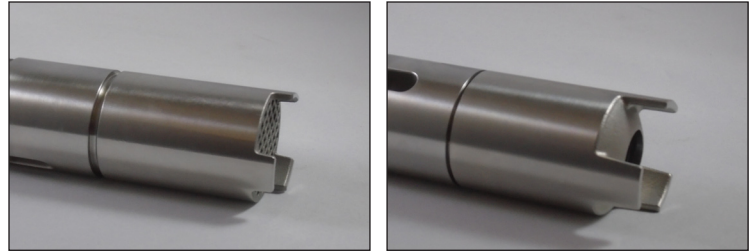
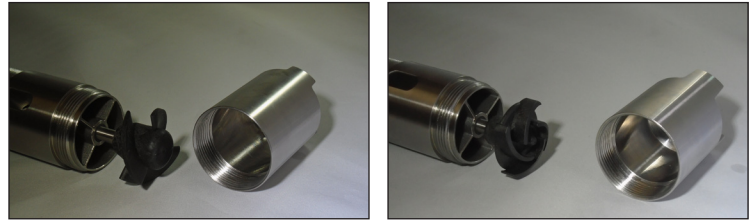
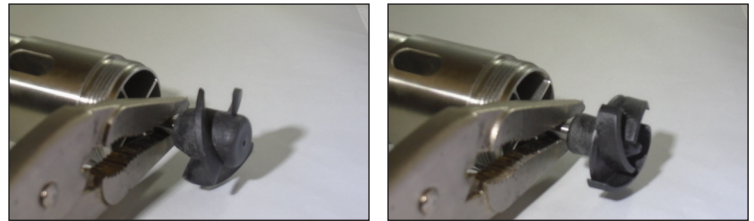

Figure 1 A & B
Figure 2 A & B
Figure 3 A & B
- Cover, Impeller, & Diffuser Removal** - Unthread the diffuser cover (item 22 or 23). Turn it clockwise (left-hand thread). See Figure 1 A & B. Unthread the impeller (item 20 or 21) turning it counter clockwise (right hand thread) using your hand while holding the coupling insert and coupling (items 1 & 2) with the other hand. See Figure 2 A & B. Note: If the shaft unthreads from the coupling, use a pliers to hold the bottom of the shaft just above the impeller. See figures 3 A & B. For longer 40" to 72" pump lengths, two people may be required to hold the shaft and unthread the impeller.